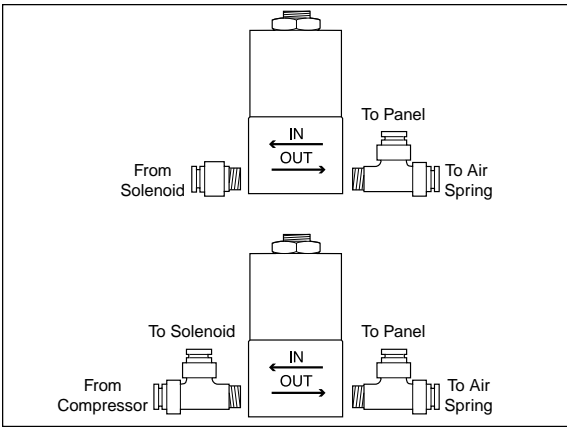

Figure 2
1. Install the fittings to the solenoids as shown in Figure 2. One port requires the use of $\frac{1}{8}$ " N.P.T. straight fitting, while all the other ports take male run tees (Figure 2).
5. Route the left hand air spring air line along the frame and secure with nylon tie straps. Push the air line into one leg of the tee on the left solenoid (Figure 2 & 8).